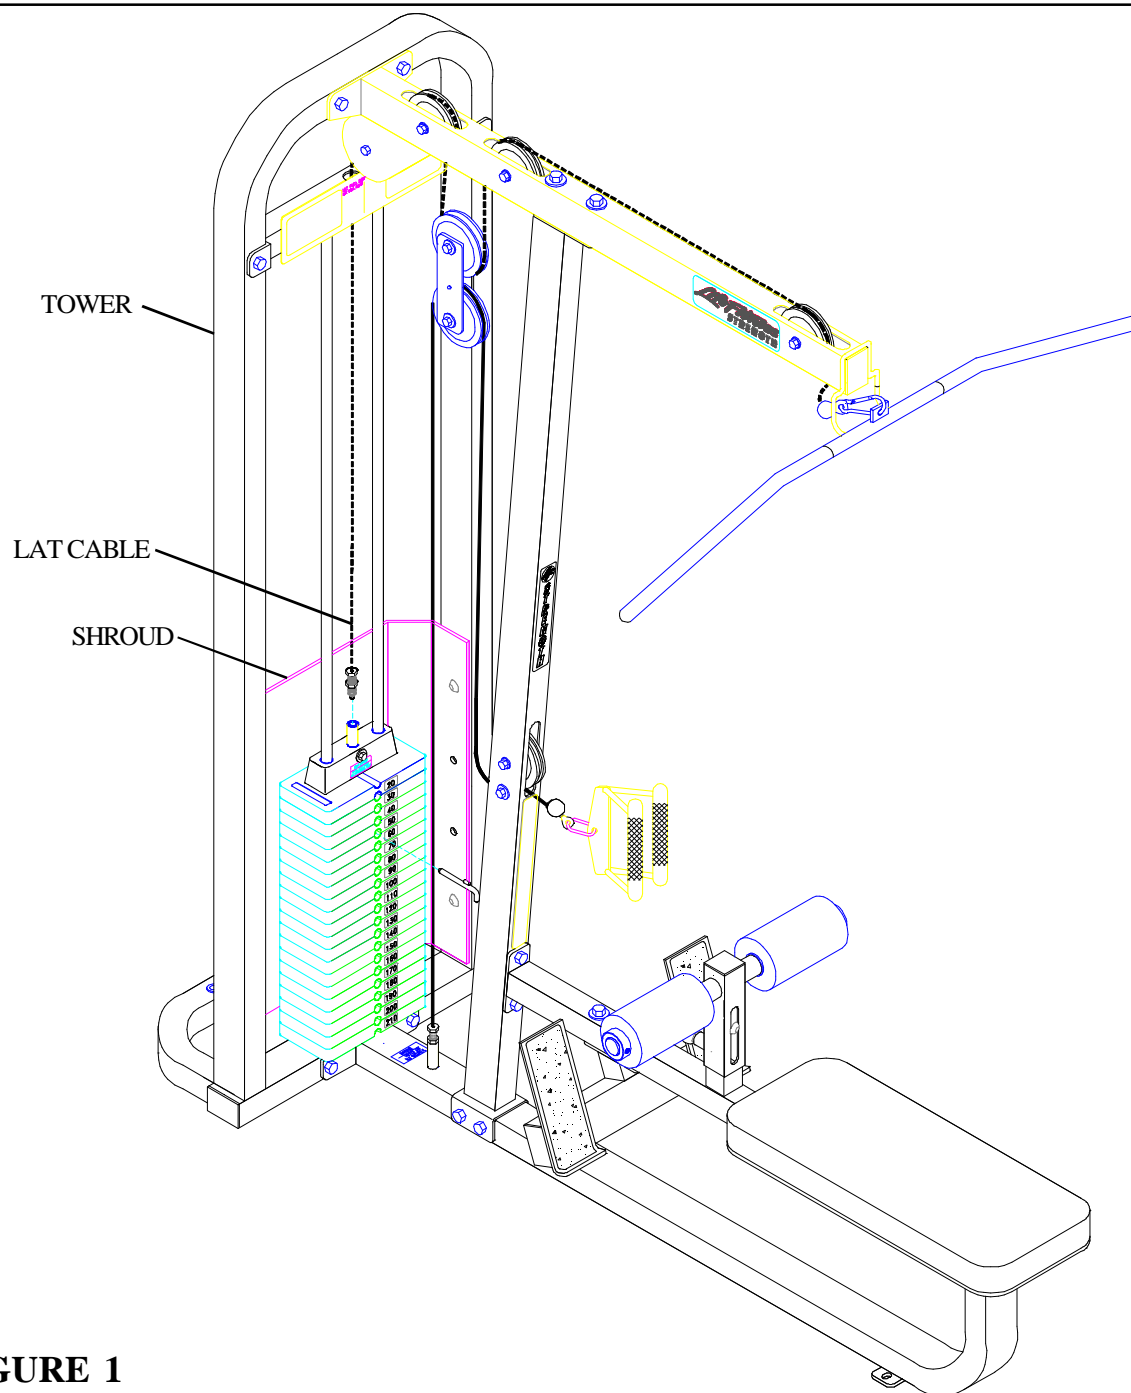

FIGURE 1
- Completely remove LAT CABLE (67815) from the TOWER BRACE, PULLEY BLOCK ASSEMBLY, and TOP BOOM. See FIGURE 1. (NOTE: It may be necessary to loosen and remove some pulleys before removing the cable.)